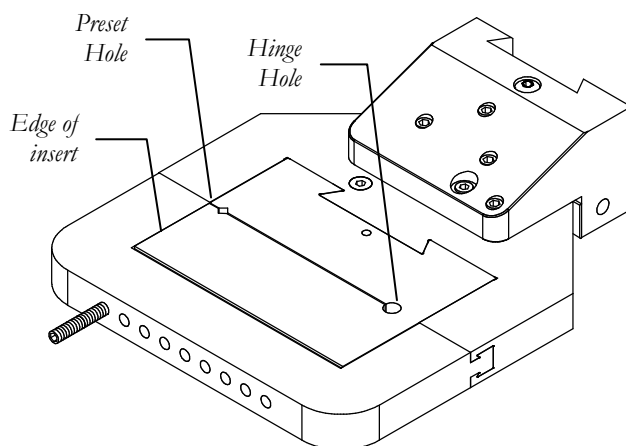

Figure 16
STEP 27. Cut back to the hinge hole as shown in Fig. 16. The slitted insert is ready for the compressing step.
Remove all the clamp screws in the multi- clamp, except one at the same side as the preset hole, as shown in Fig 16.